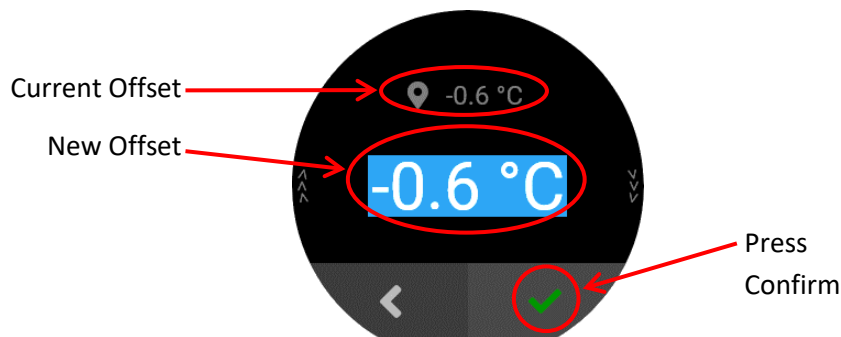

Figure 51: Screen to Edit the Calibration Offset
- Press the **Edit** button on the Base Unit to edit the temperature offset. When you enter this screen, the current calibration offset will be shown on top, and that same number will be initially shown highlighted as the new offset. Press **Confirm**. See Figure 51.